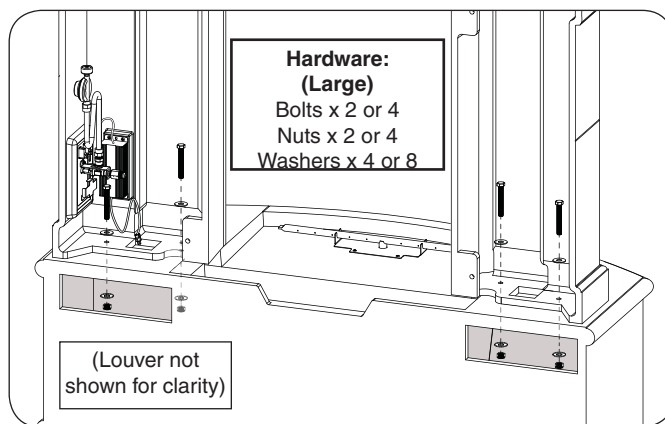

Fig. 20-1 Fasten top
8. Insert the hardware (large hardware kits) in the order shown in Fig. 20-1. Hand tighten, then use two $\frac{3}{4}$ " open end wrenches (or equivalent) to fasten.